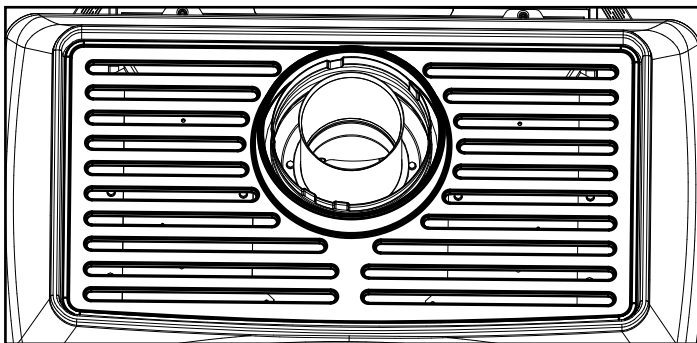

Figure 6.1
1. Remove top grille, as highlighted in Figure 6.1.